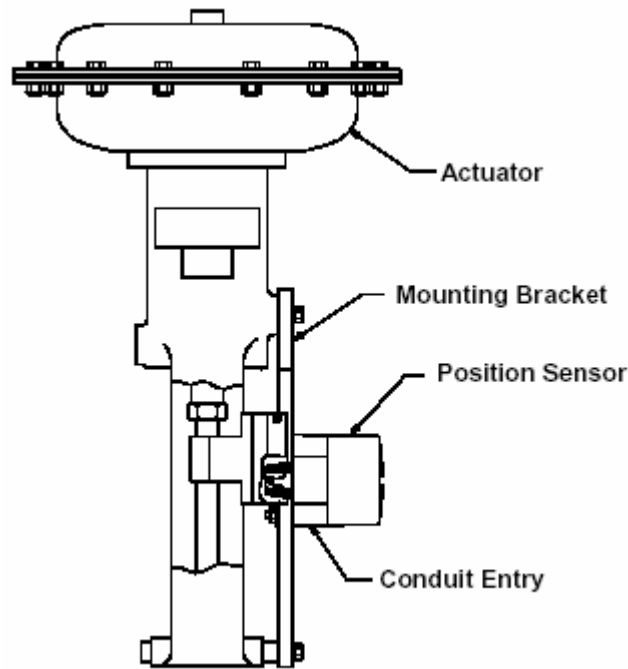

Figure 12
- 8.4.2. Mount the position sensor housing so that the conduit entry faces away from the diaphragm or cylinder (See Figure 12)